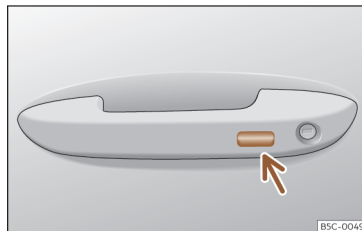

Fig. 91 Door handle: sensor surface.
- **OR** using the Keyless Access system (only locking): Press and hold the locking sensor surface  **Fig. 91** (arrow) on the door handle for several seconds to close the windows and the sunroof. If you release the sensor surface, the closing movement stops.
• Press and hold the locking sensor surface >>> Fig. 91 (arrow) on the door handle to close the sunroof. If you release the sensor surface, the closing movement stops.